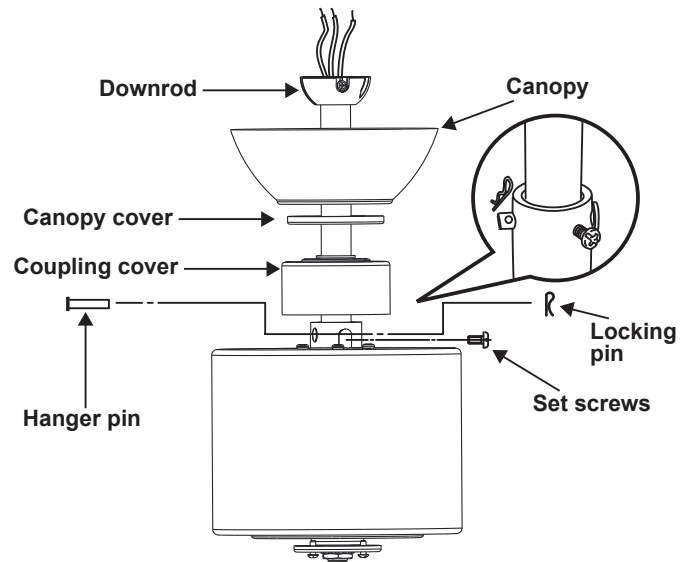

Figure 6
Step 4. Route wires exiting from the top of the fan motor through the coupling cover, canopy cover and canopy, then through the ball/downrod. (Fig. 6)
Step 5. Align the holes at the bottom of the downrod with the holes in the collar on top of the motor housing (Fig. 6). Carefully insert the hanger pin through the holes in the collar and downrod. Be careful not to jam the pin against the wiring inside the downrod. Insert the locking pin through the hole near the end of the hanger pin until it snaps into its locked position, as noted in the circle inset of Fig. 6.
Step 6. Tighten two set screws against the downrod on top of the fan motor firmly. (Fig. 6)